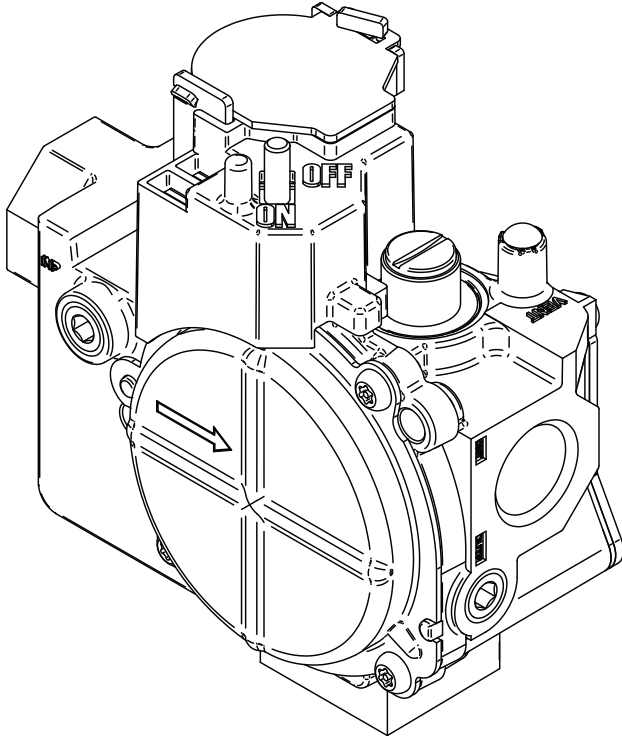

Fig. 47 - Gas Control Valve
- b. Remove manifold pressure tap plug from gas valve. (See Fig. 47.)